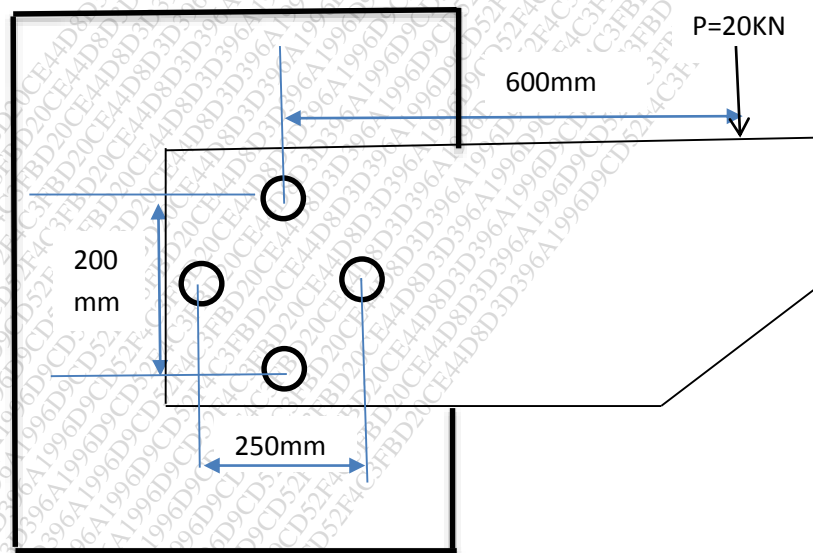

Fig. 2
- (b) A bracket is supported by four rivet of equal diameter as shown in figure 2, to support a load of 20KN. Determine the size of the rivet, taking the permissible shear stress as 60MPa. **10**